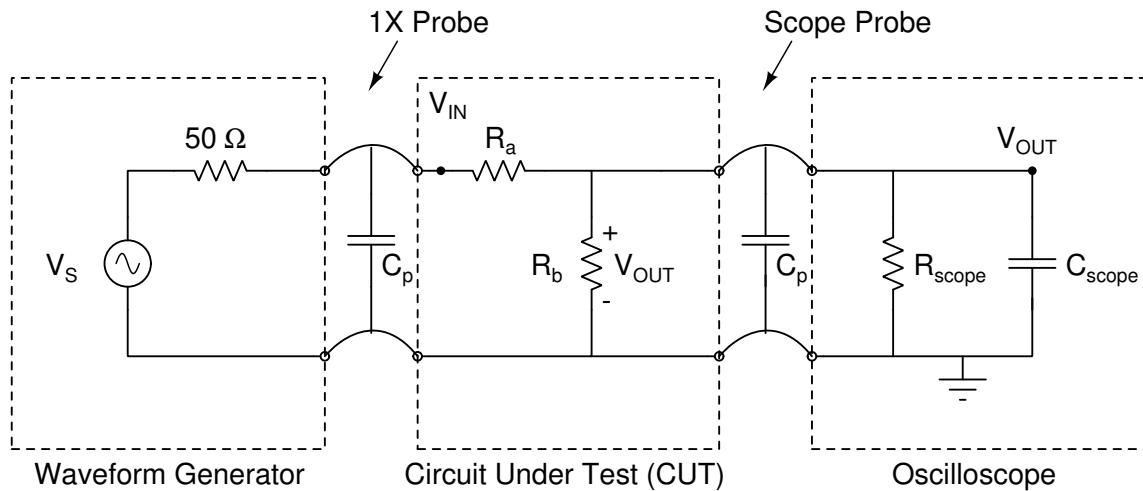

Figure 2: Measurement set-up for the resistor divider circuit.
This lab illustrates that the actual values of the components, and the impedances associated with the test equipment and cables, must be considered when determining the actual value of the voltage across a circuit element. All voltage sources, including batteries and waveform generators, have a finite source impedance. All measurement equipment, including oscilloscopes and digital volt meters (DVMs), have a finite input impedance that presents a load to the circuit. Cables that connect the circuit to the test equipment introduce additional impedances in the circuit. The schematic of the circuit under test (CUT) when connected to a waveform generator (WG) and oscilloscope (scope) is shown in Figure 2.
- Use Matlab® to plot the capacitance, DF, and ESR as a function of frequency for the 1X-probe and scope probe that you recorded during the **Lab Procedure item 1** and **item 2**.
2. Use NGspice to simulate the expected output voltage V_{OUT} as a function of the resistance R , when the value of R is varied from $10\ \Omega$ to $10\ \text{M}\Omega$. Simulate the circuit of **Figure 2**. Include the capacitance of each probe, the output resistance of the WG, and the input impedance of the scope. A Matlab® file is available at: (https://davidkotecki.com/ECE214/docs/Matlab/ECE214_2022_Lab1.m).
3. Plot the simulated results from Post-Lab **item 2** on a semi-log graph with the x-axis (resistance value) as the logarithmic scale. On the same graph, plot the three measured values of V_{OUT} from **Table 2**.